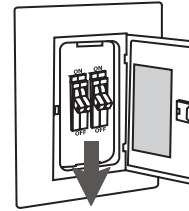

FIGURE 4
3. Pass the 120-volt supply wires through the center hole in the ceiling mounting bracket as shown in Figure 4.